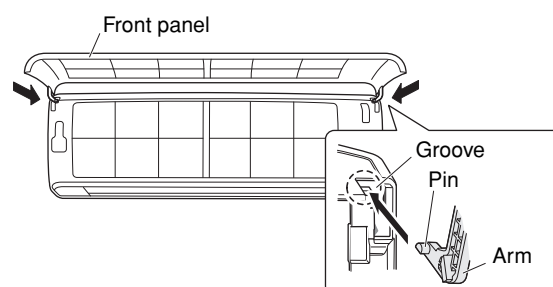

Fig. 18-2
- (1) Insert the bottom of the grille into the flap, with the flap at a more-or-less horizontal position.
- (2) While aligning both edges of the grille with the frame, move the panel horizontally and insert the top and bottom into the frame.
- (3) Press the air discharge outlet firmly with your hand to ensure no gap exists between the main unit and grille.
- (4) Tighten the 2 screws and close the screw covers. Also tighten the 3 screws of the frame.
- (5) Grasp the sections near the front panel arms on both sides, hold the front panel so that it is nearly horizontal, bring the arm shafts into contact with the top of the grooves on the right and left sides of the air conditioner, and then push firmly until the arm shafts click into place. (Fig. 18-2)